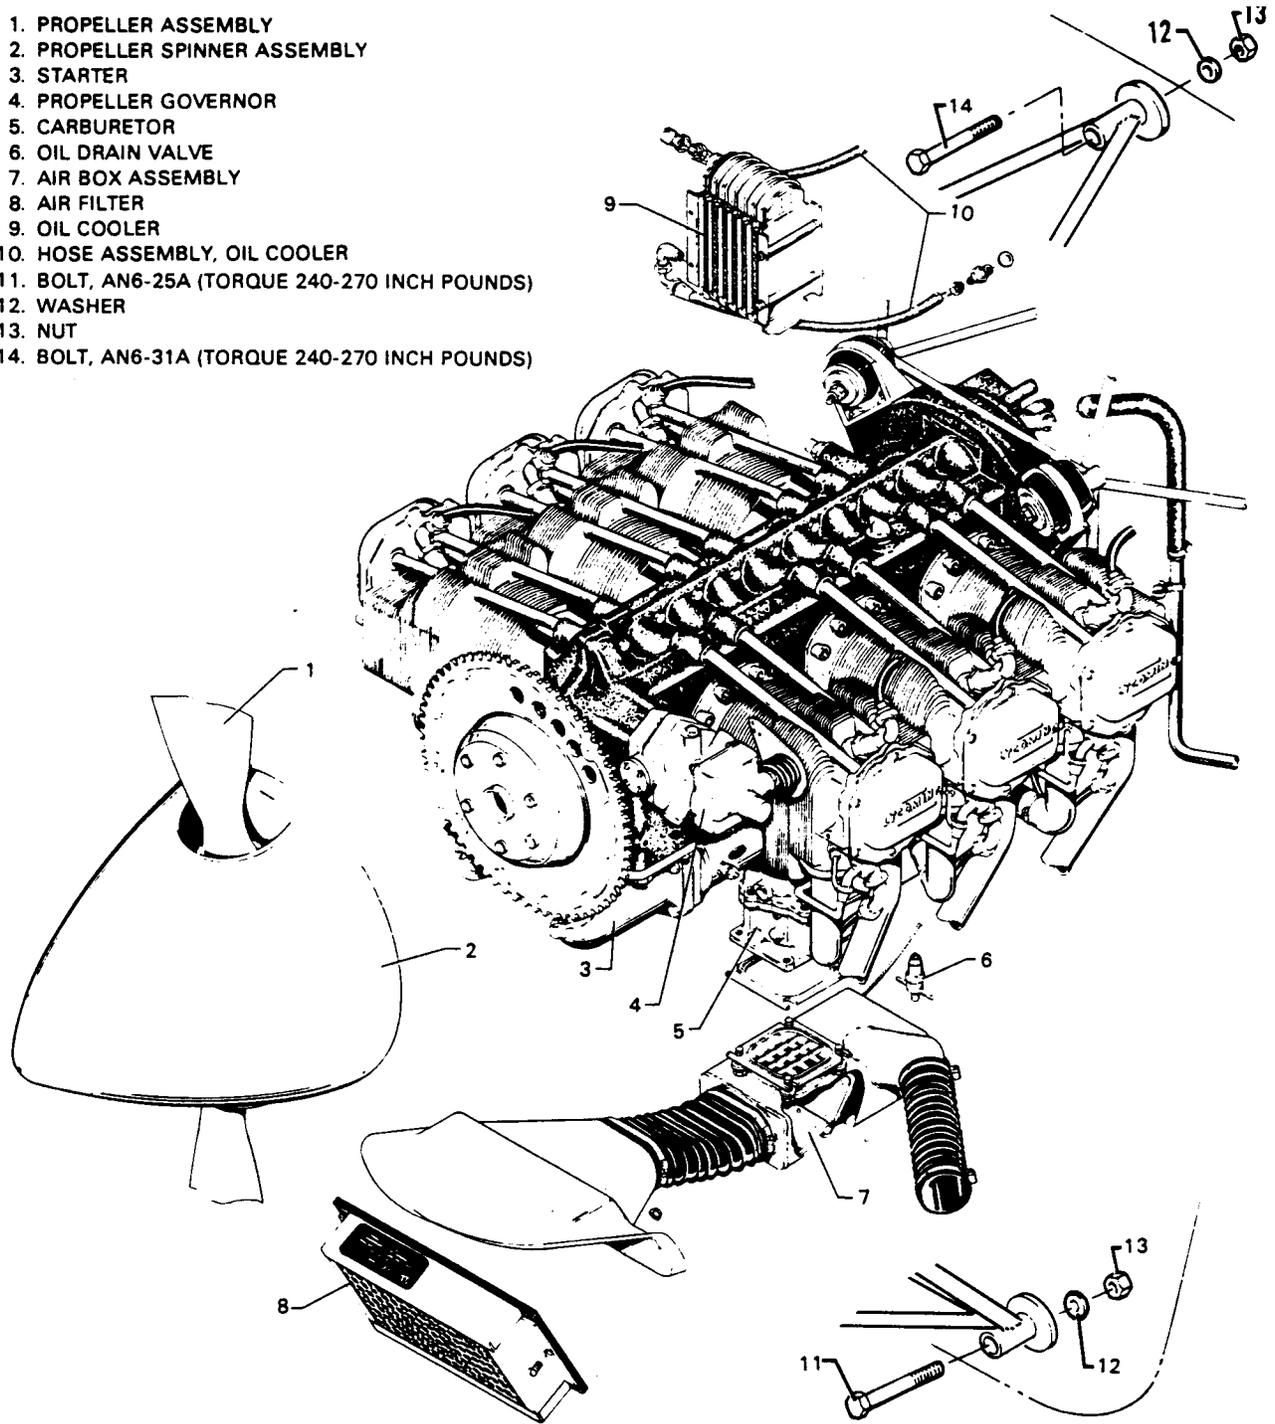

Figure 71-1. Engine Installation (PA-28-236)
**REMOVAL OF ENGINE** (figure 71-1)
### INSTALLATION OF ENGINE (figures 71-1 and 71-2)